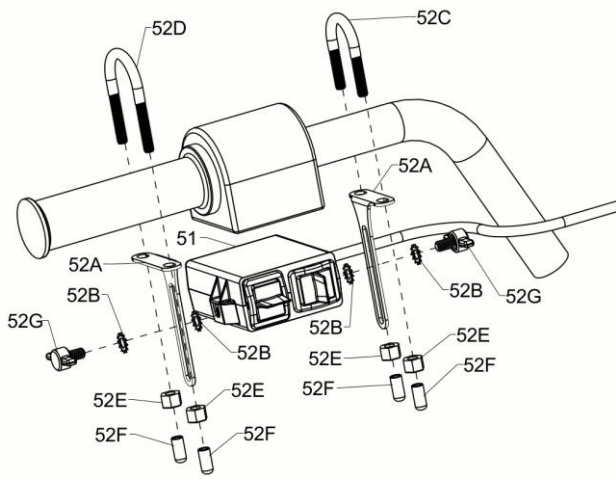

Figure 6. Switch Box Control Mounting Diagram G10753
2. Loosely assemble the Switch Box Control Mounting Brackets (52A) to the U-bolts (52C & 52D) below the handlebar using four 1/4"-20 Self-Locking Nuts (52E) as shown in Figure 6.
3. Align the Switch Box Control (51) with the Control Mounting Brackets (52A) under the control cluster. Assemble using four 1/4" Star Washers (52B) and two 1/4"-20 x 1/2" Thumb Screws (52G).
4. Adjust Switch Box Control (51) to desired position. Tighten all mounting fasteners.